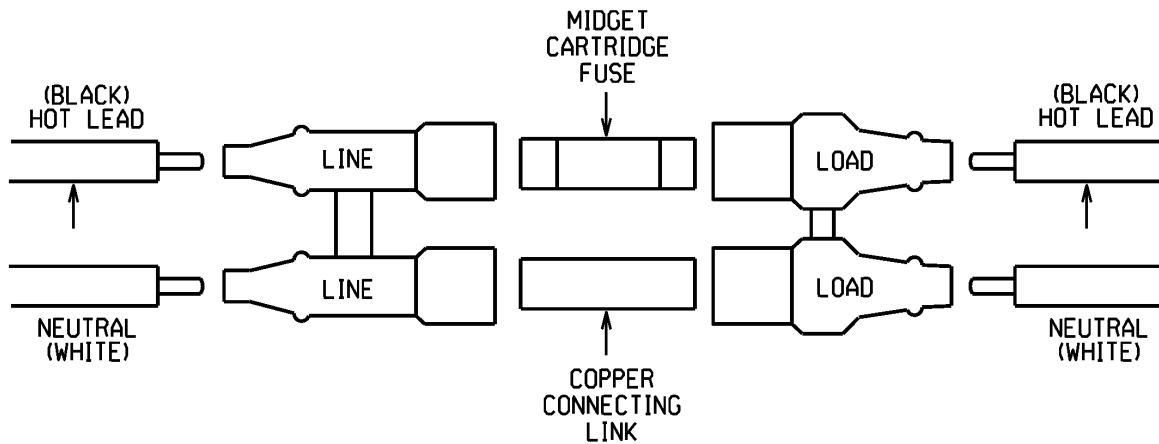

Figure 11– In-Line Fused Disconnect Details
19.8.30 **Electrical Separation:** The customer is responsible to create an electrical separation between the PPL secondary conductors and the customer owned outdoor lighting conductors. This is required to insure the safety of PPL and customer employees. This is accomplished by installing, at a minimum, a dual pole in-line fuse holder with a midget cartridge style fuse on every outdoor light supply located as near as possible to the connection to the PPL owned secondary conductors. This fuse/disconnect device, in addition to providing electrical protection, shall serve as a future disconnect point for the customer owned outdoor light. Once installed, the customer may disconnect or reconnect a customer owned outdoor light only by means of the in-line fuse holder/disconnect device. See Figure 12 for overhead supplied outdoor lights, and Figures 13 or 14 for underground supplied outdoor lights. See Figure 11 for in-line fused disconnect details. The in-line fuse holder/disconnect device does not define where PPL ownership ends, and customer ownership begins. The point of ownership demarcation is at the point of connection to the distribution system. The company owns up to and including the connector.
1. Every customer outdoor light shall have an in-line fused disconnect as described above in “Electrical Separation”. See Figure 11 for details on the in-line fused disconnect.
1. Install customer owned handhole as shown. Customer owned handhole shall house the in-line fused disconnect. See Figure 11 for details on the in-line fused disconnect.
3. No more than (2) riser conduits may be attached to a pole. Consult PPL Engineering if more than (2) risers are desired.
1. Install customer owned disconnects under conductor covering. See Figure 11 for details on the in-line fused disconnect.